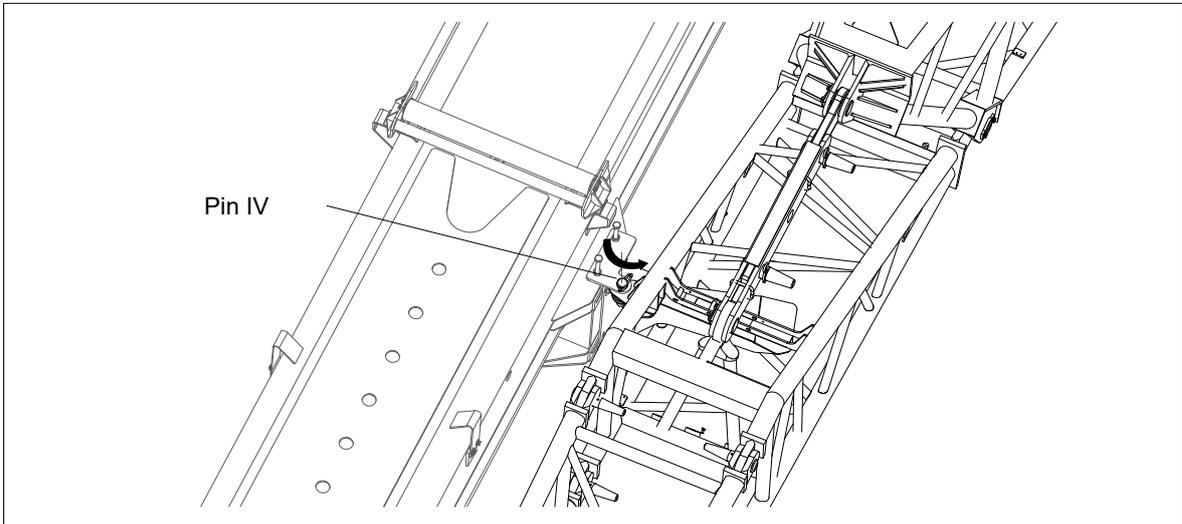

Figure 5-6 Move the front of the jib away from the boom
- e) Move the front of the jib away from the boom (jib pivots at pin IV). See Figure 5-6.